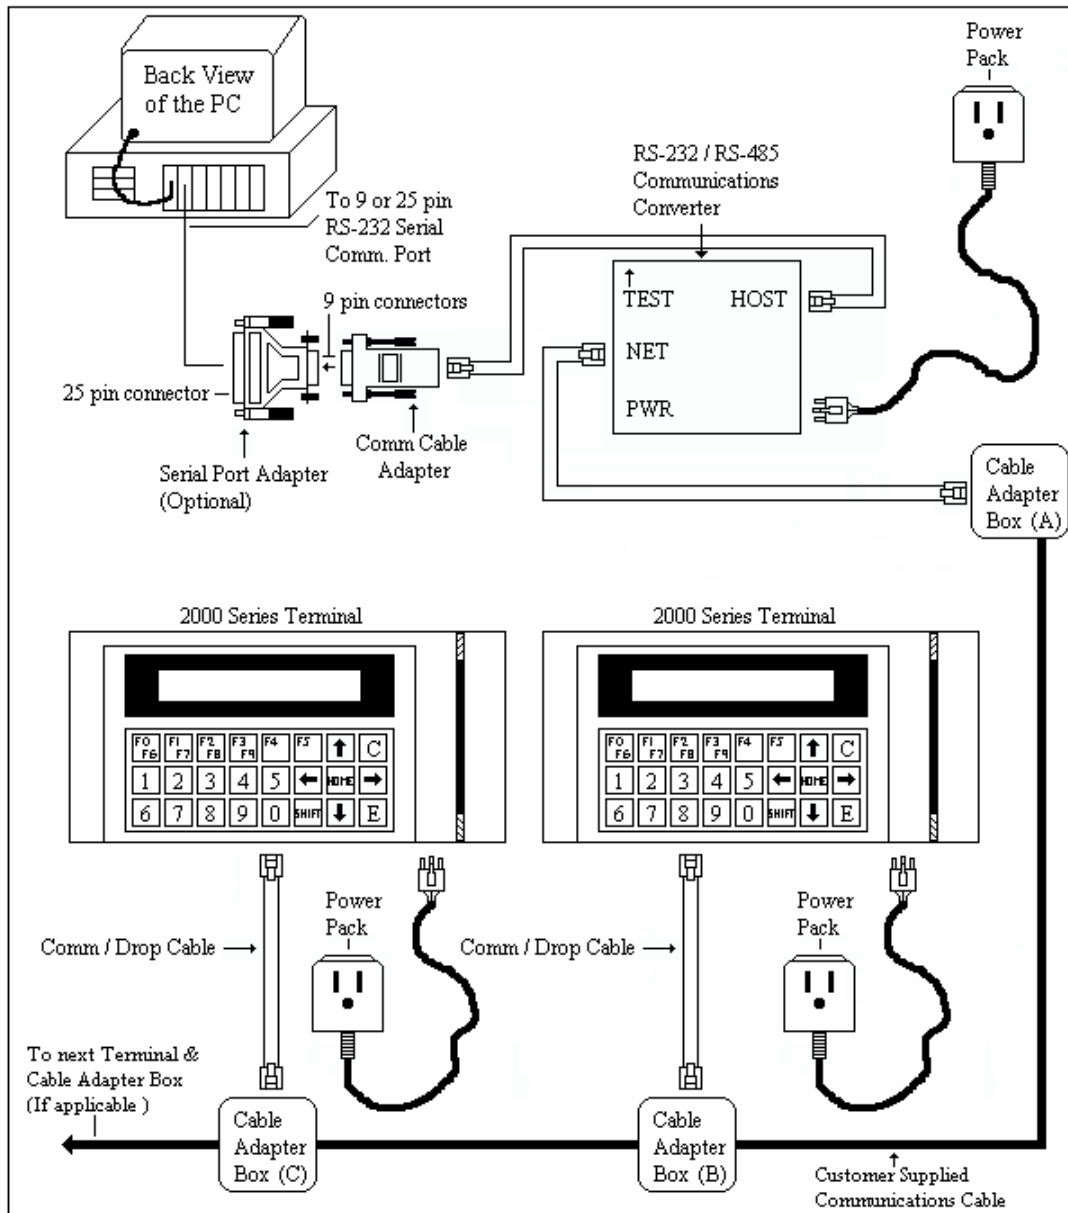
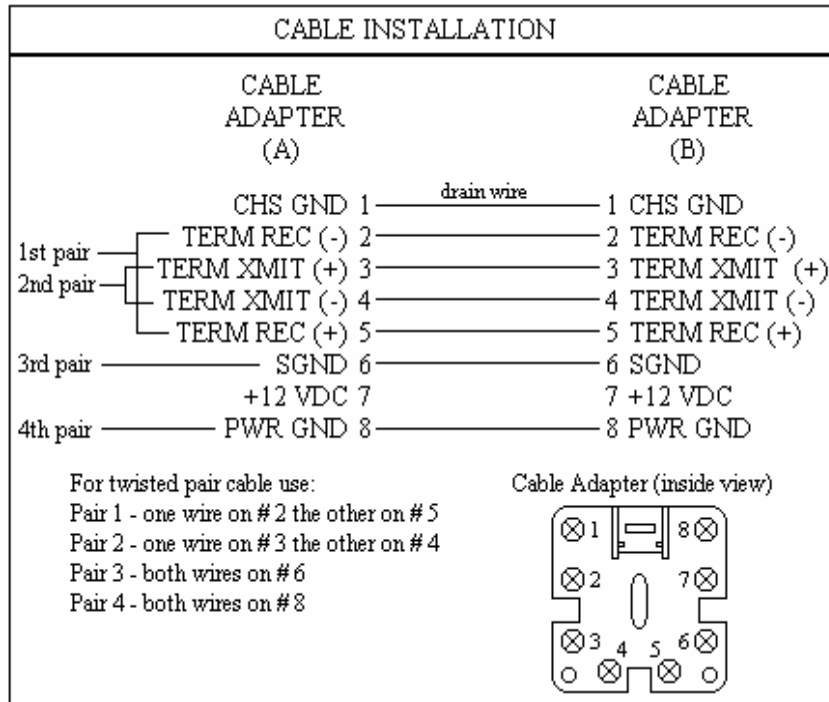

Figure 1
Figure 4
Figure 1 shows how all of the system components are connected on a typical RS-485 Network setup. The Network can have up to 32 Terminals with a total cable run of 5,000 feet. (5,000 ft. run is dependent upon wire specifications and Terminal power supply location). See Appendix A for recommended cable specifications. (Note: Figures are not to scale).
- As you install the system, refer to Figure 1 in addition to the other figures mentioned below.
If a 9 pin serial communication port on the PC is to be used, then connect the 9 pin end of the Comm Cable Adapter into the 9 pin serial port and secure it in place (Figure 1). If a 25 pin serial port is to be used, then connect a 25 to 9 pin serial port adapter (not supplied) into the 25 pin serial port on the PC and secure it in place (Figure 1). Plug the 9 pin end of the Comm Cable Adapter into the 9 pin end of the serial port adapter and secure it in place (Figure 1).
Strip back the outer covering on the communication cables about 2 inches. For twisted pair cable, select 1 twisted pair from however many there are and strip them back about ½ inch. For non-twisted pair cable, select 5 color wires from however many there are (Note: The same color wires must be used at every Terminal location and at the Converter) and strip them back about ½ inch. For either type of cable, connect and screw the wires down into to both Cable Adapter Box (A) and Cable Adapter Box (B) using the Cable Installation diagram (Figure 4). It does not matter what color wire is selected to screw down into the Cable Adapter's screw terminals, as long as the same color wire is connected to same number screw terminal at each Adapter (Figure 4). For twisted pair cable, repeat this step for each one of the remaining twisted pairs by following the Cable Installation Diagram (Figure 4). (Note: If there are only 3 twisted pairs in the cable, then the 3rd pair would be connected to the #6 screw terminal). Connect the Drain wire from the communication cable at all Cable Adapters to screw terminal 1. (Depending on the environment, the drain wire at Cable Adapter (A) may need to be tied to an Earth Ground). For each additional Terminal to be installed, connect and screw the wires down from the communication cable from the previous Cable Adapter to the next Cable Adapter by using the Cable Installation diagram (Figure 4). (For example, for a second Terminal to be installed, the communication cable would be wired from the first Terminal's Cable Adapter (B) to the second Terminal's Cable Adapter (C) etc. (Figure 1)).
Plug the Terminal's power pack into a 120 VAC outlet (Figure 1). The Terminal will run a series of self-tests and prompt "Setup Mode?" on the top line of the display. The bottom line of the display shows the Baud Rate, Parity, Host Delay, Terminal Address, Protocol Option, and the type of Reader (Figure 10).